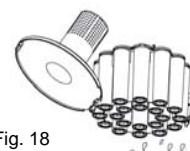

Fig. 17
2. Hold it upright under running water and let it fill half way. (Fig. 17)